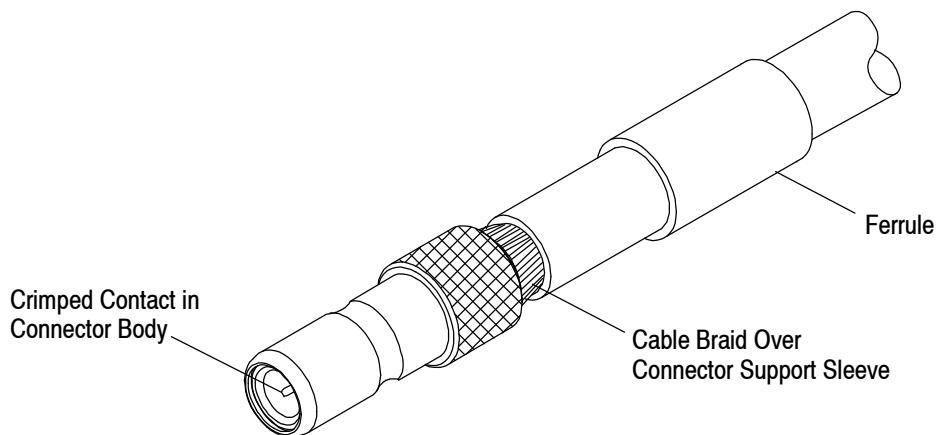

Figure 7
2. The cable braid must be positioned over the support sleeve of the connector. See Figure 7.